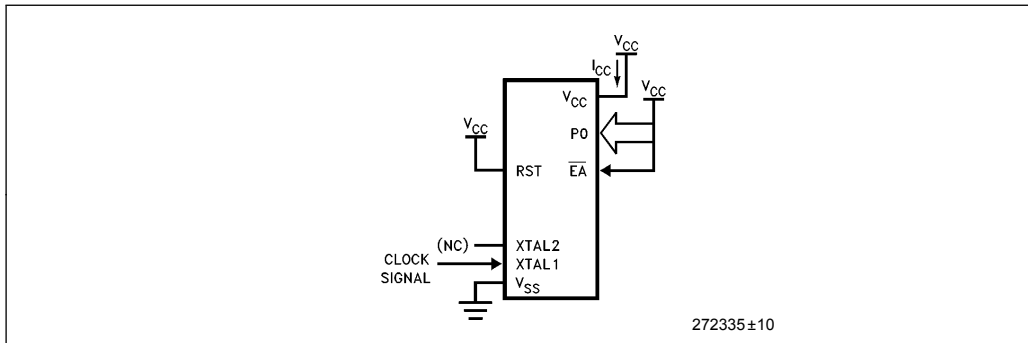

Figure 6.  $I_{CC}$  Test Condition, Active Mode. All other pins are disconnected.
- 4. See Figures 6 through 8 for ICC test conditions. Minimum VCC for Power Down is 2V.